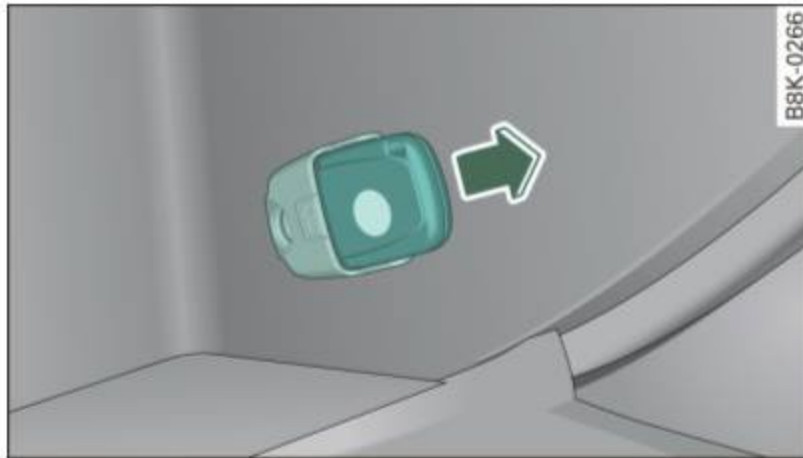

Fig. 37 Glove compartment: Adapter for emergency key
- Take the adapter for the emergency key out of the glove box ⇒ fig. 37.